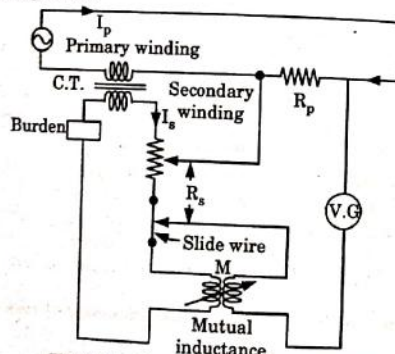

Fig. 3.18.1. Mutual inductance method.
1. This is an absolute method using null technique. The connections are shown in Fig. 3.18.1.